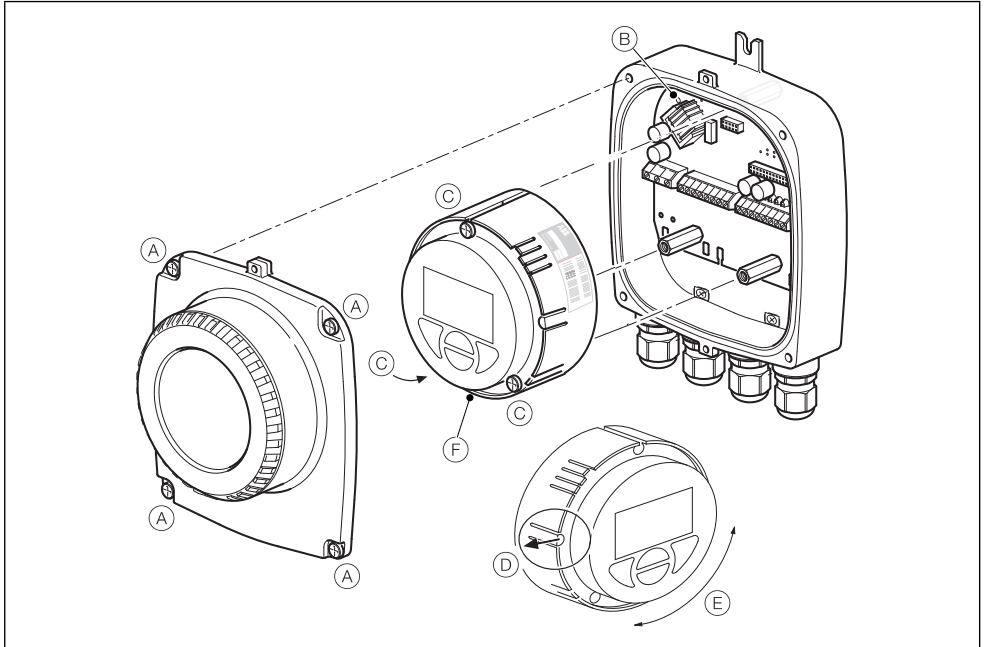

Fig. 3.4 Accessing the Transmitter Terminals
Referring to Fig. 3.4:
1. Confirm that the cartridge to be fitted is of the correct power supply and for the correct communications bus type (HART, PROFIBUS OR MODBUS) by checking the label (A) on the side of the cartridge:
2. Align the three cartridge screws (B) with the cartridge housing pillars and tighten the screws carefully until the cartridge is held in position.
3. If necessary, rotate the cartridge to the required orientation before refitting the cover – see Fig. 3.4, page 13 for details.
5. Align the transmitter cover with the housing and tighten the four cover screws (C) carefully.